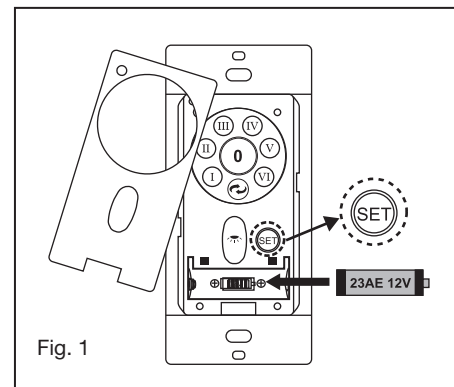

Fig. 1
1. Insert the receiver into the ceiling mounting bracket with the flat side of the receiver facing the ceiling. (Fig. 1) For best performance, make sure the Black Antenna, on the end of the receiver, remains extended and not tangled with any of the electrical wires.
- 1 Remove one of the three screws on the mounting hub located on the fan motor. Loosen the other 2 screws. (Do not remove) (Fig. 1)
- 1 Remove the existing wall plate and the old switch from the wall outlet box. (Fig. 1)
Follow the below steps to use the set button. (Fig. 1)